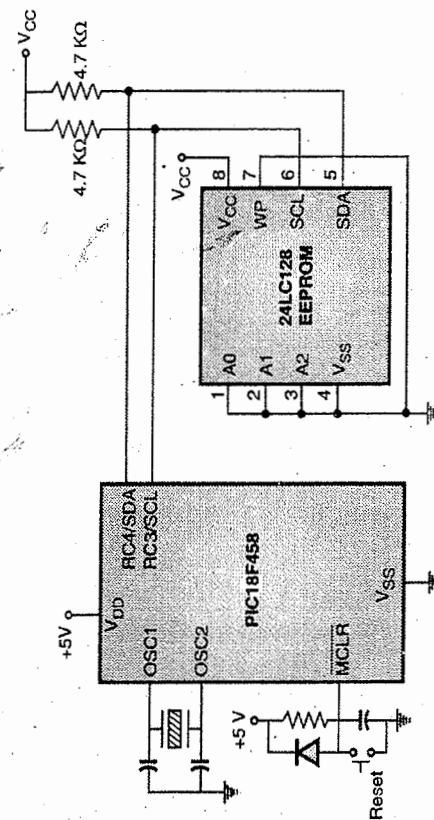

Fig. 14.13.1 : Interfacing PIC18 to EEPROM 24LC128 with I2C
Fig. 14.13.1 shows the PIC interfacing with EEPROM.
- As shown in Fig. 14.13.1 the SCL and SDA pins are open drain. Hence, they need pull up registers.
**Soln. :** Fig. 14.13.1 shows the interfacing diagram.